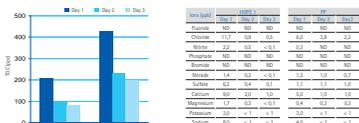

Figure 4: Total organic carbon (TOC) extractions from polystyrene and polypropylene.
High-density polyethylene (HDPE) and polypropylene (PP) were tested. Ultrapure water was stored in carefully rinsed bottles for 24 h, water was analyzed from distribution. The procedure was repeated 3 times. Table 1 and Figure 4 show that reservoirs made of HDPE are a better choice than those made of PP.